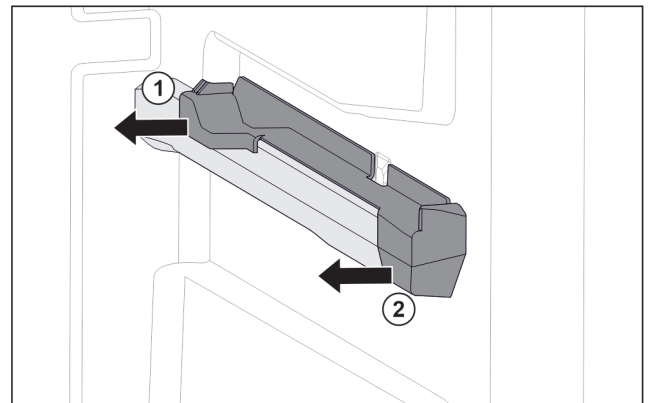

Fig. 61 Attachment on the right moulded rib
- ▶ Pull off attachment at the back sideways. Fig. 61 (1)
- ▶ Pull off attachment at the front sideways. Fig. 61 (2)